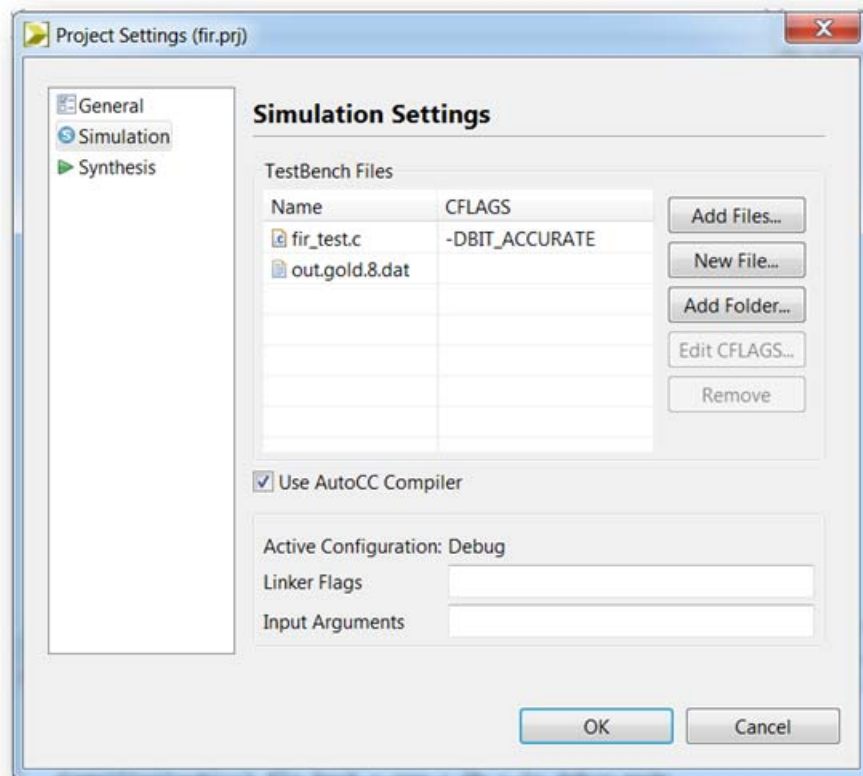

Figure 5-4: Project Simulation Settings
5. Select the check box **Use AutoCC Compiler**. This opens the warning dialog box shown in Figure 5-4.
The updated Simulation section is shown in Figure 5-4.